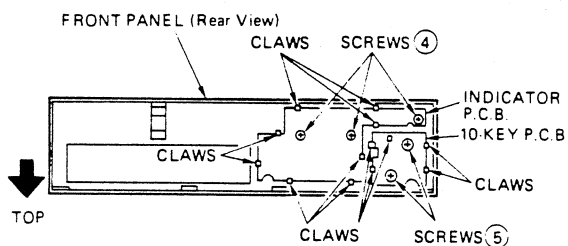

Fig. 3
- 1) Remove 3 screws (4) fixing the indicator P.C.B. and remove 2 screws (5) fixing the 10-key P.C.B. (Fig. 3)